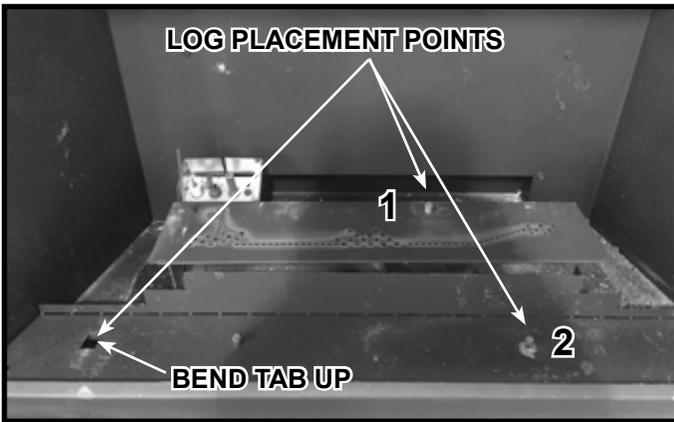
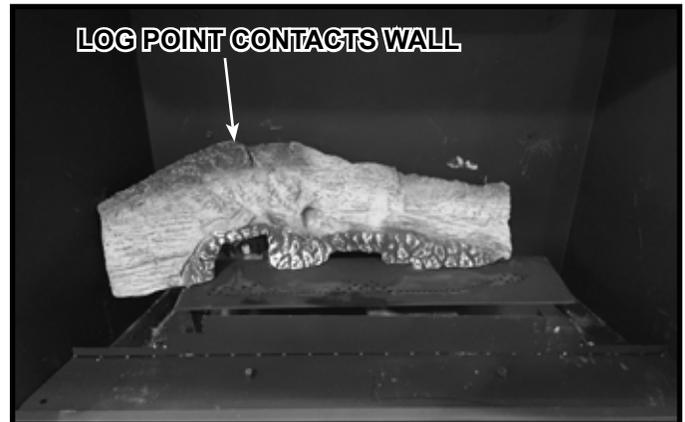

Figure 3.
Figure 4.
Figure 3 shows the points used for correct log placement. Bend the tab on the basepan upward to a 90 degree angle as shown. The two shoulder screws will be used in placement of Log 1 and Log 3.
**Log #1 SRV2401-701:** Locate the hole on the bottom right side of Log 1 and the shoulder screw marked “1” in Figure 3. Place the hole onto the shoulder screw as shown in Figure 4. Push the left side of Log 1 back until it contacts the back wall of the firebox.
**Log #2 (SRV2401-702):** Locate the hole on the bottom side of Log 2 and the shoulder screw marked “2” in Figure 3. Place the hole onto the shoulder screw as shown in Figure 5. Push the left side of Log 2 back until it contacts the back of the basepan.